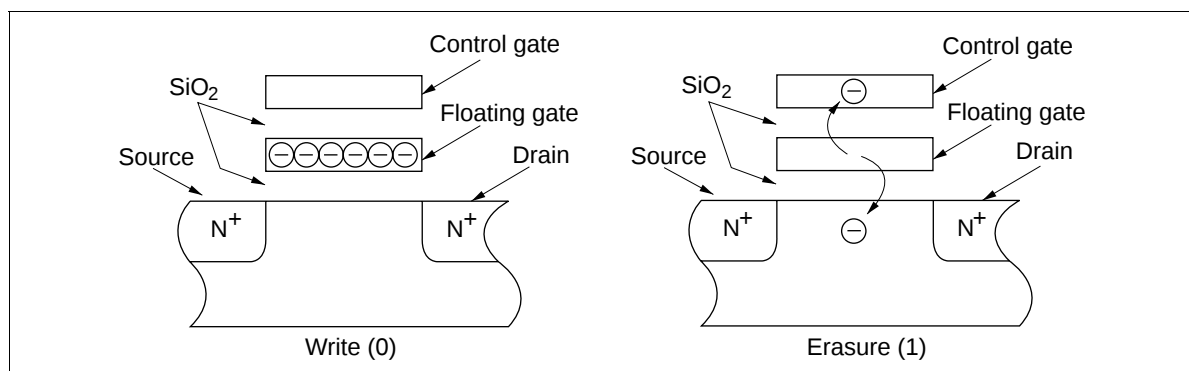

Figure 98 Cross-Sections of a PROM Cell
**Principles of Programming/Erase:** A memory cell in a ZTAT™ microcomputer is the same as an EPROM cell; it is programmed by applying a high voltage between its control gate and drain to inject hot electrons into its floating gate. These electrons are stable, surrounded by an energy barrier formed by an  $\text{SiO}_2$  film. The change in threshold voltage of a memory cell with a charged floating gate makes the corresponding bit appear as 0; a cell whose floating gate is not charged appears as a 1 bit (figure 98).